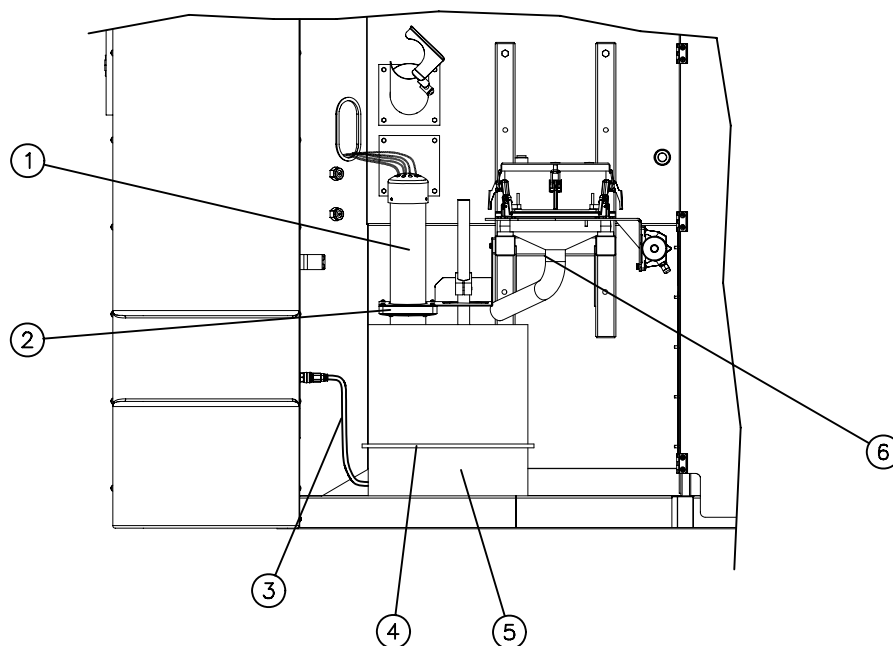

Figure 11 Feed Hopper and Sieve Setup and Connections
4. See Figure 11. Position the feed hopper (4) under the lance guide (2).
5. Make sure the sieve discharge chute (5) is positioned so the screened powder will fall into the feed hopper. To position the chute, release the sieve deck clamps, rotate the chute, then retighten the clamps.
6. Connect the fluidizing air hose (3) to the hopper fluidizing pan.
8. If used, connect the reclaim and virgin powder transfer tubing (7) to the sieve lid inlets.
14. See Figure 11. Install the lance(s) in the lance guide.